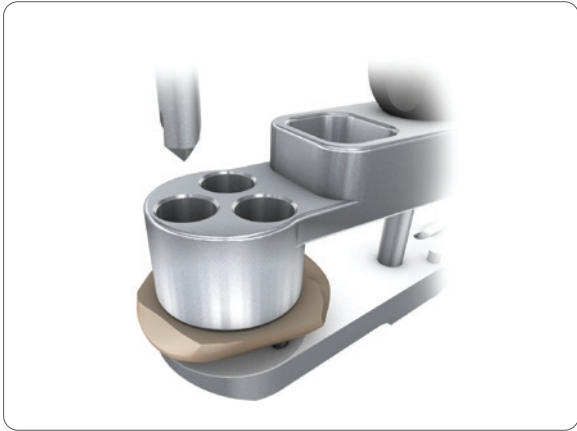

Figure 81
7. Drill the appropriate fixation holes for the resurfacing patellar implant using the correctly sized drill guide and resurfacing drill (**Figure 81**).